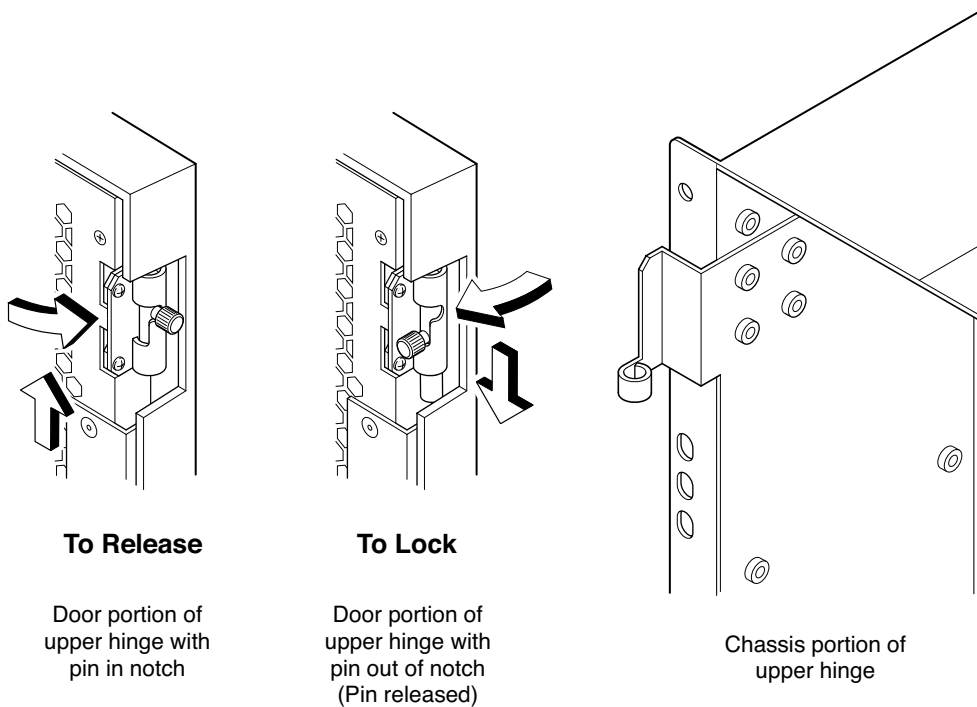

Figure 20 Upper door hinge
- b. Support the door to prevent it from falling. Push the spring-loaded pin on the upper hinge up and into the notch in the hinge (see Figure 20), and push the spring-loaded pin on the lower hinge down and into the notch. Pull the door away from the chassis.